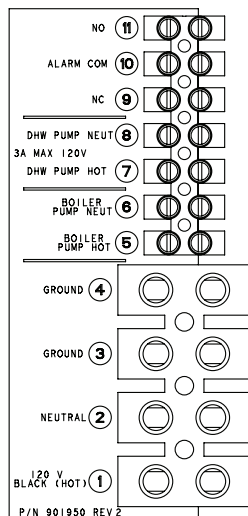

Fig. 11a: Wiring Electrical Connections
All 120 VAC field wiring connections to the XFyre heater are made inside the rear wiring box as shown in Fig. 11a. Power to the XFyre heater should be connected to terminals 1, 2, and 3 as shown in Fig. 11a. Low voltage wiring is connected to the field wiring board at the front of the unit. Sensors, Thermostat (TT)
Refer to Fig. 11a–19.